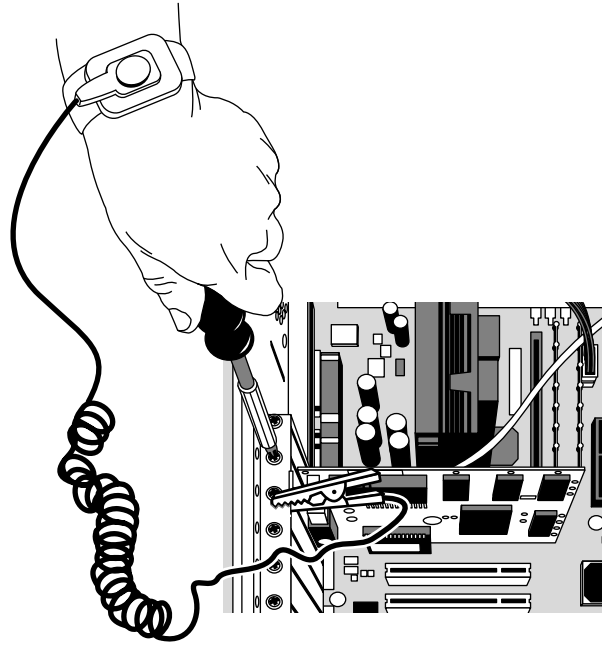

Figure 3.5 A typical ESD wrist strap, clip the end to a metallic surface in the chassis.
- **Electrostatic discharge (ESD) protection kit, including wrist strap and mat (such as those from Radio Shack or Jensen Tools)**—This kit prevents static damage to the components you are working on. These kits consist of a wrist strap with a ground wire and a specially conductive mat with its own ground wire. You also can get just the wrist strap or the antistatic mat separately. In areas where there is low humidity (or during certain seasons of the year), static charges are much more likely to build up as you move, increasing the need for ESD protection. A wrist strap is shown later in this chapter in Figure 3.5.
Electrostatic discharge (ESD) protection is another issue. While working on a PC, you should wear an ESD wrist strap, which is clipped to the chassis of the machine (see Figure 3.5). This will ensure that you and the system remain at the same electrical potential and will prevent static electricity from damaging the system as you touch it. Some people feel that the system should be plugged in to provide an earth ground. Working on any system that is plugged in is not a good idea at all, as previously mentioned. No “earth” ground is necessary; all that is important is that you and the system remain at the same electrical potential, which is accomplished via the strap. Another issue for personal safety is to use a commercially available wrist strap rather than making your own. Commercially made wrist straps feature an internal 1 Meg ohm resistor designed to protect you. The resistor will ensure that you are not the best path to ground should you touch any “hot” wire.